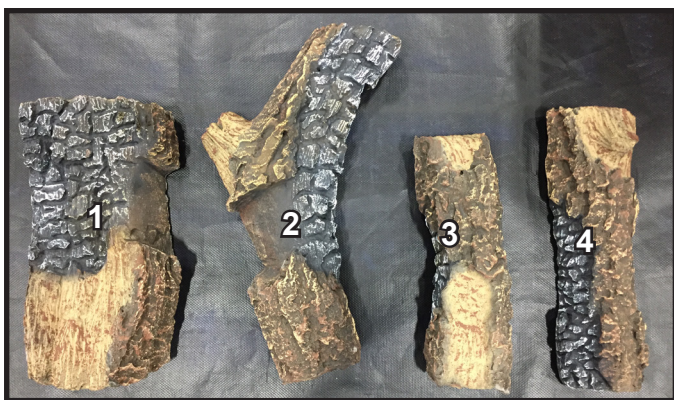

Figure 7 Log Identification
**NOTICE:** To simplify the installation process, positively identify each individual log before beginning installation. See Figure 7.